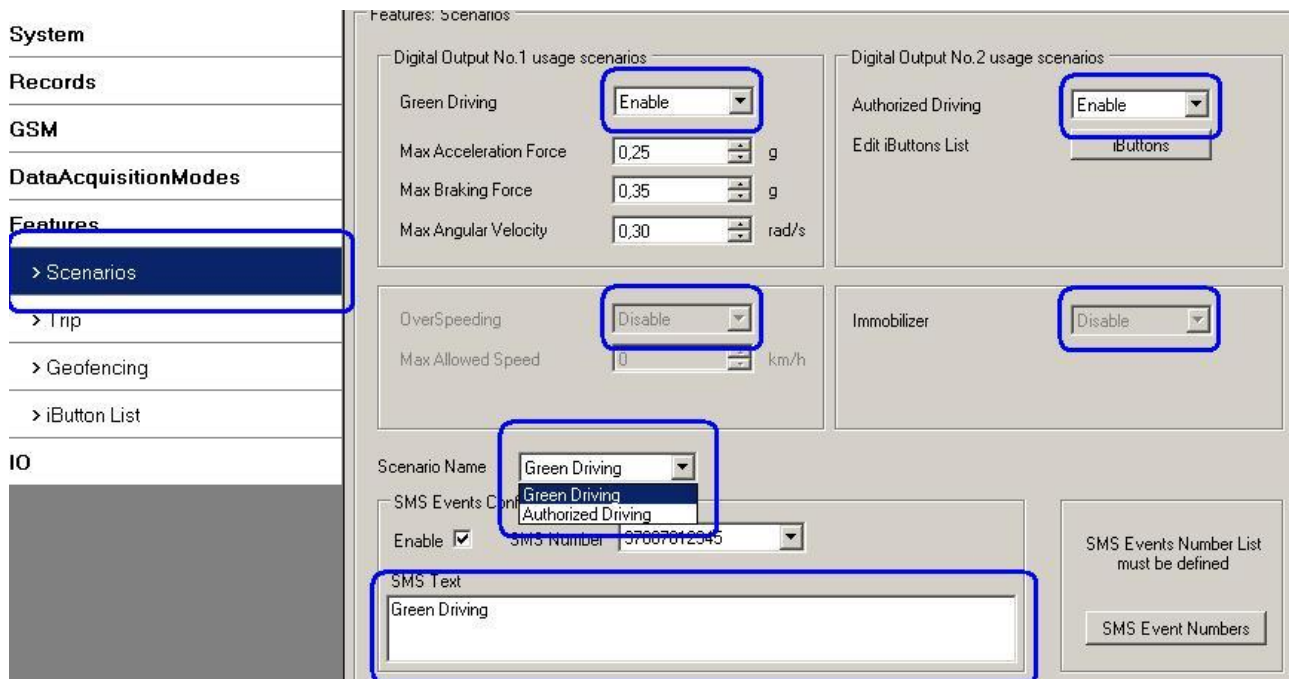

Figure 33 Scenarios SMS event configuration
- To configure SMS events for scenarios click scenarios window. Enabled scenarios will automatically appear near the SMS event window (figure 33). Note, that ECO Driving can't work together with Over Speeding and Authorized Driving can't work together with Immobilizer scenario– only one of them could be enabled. After enabling SMS events, different message texts can be written for different scenarios.